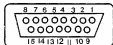

Figure 6-3. Cable Connector Pins
- 3) To check the switches you must connect the leads of the ohmmeter to the pin numbers given below. Without the button depressed it should show infinite resistance (open circuit). With the button depressed it should show less than 50K ohms resistance. Be sure to press the two fire buttons (left and right sides) separately to make sure they both work (see Figure 6-3 on page 6-6 for pin locations).
Cable Connector Pins are numbered as shown in Figure 6-3.
- 3) To check the switches you must connect the leads of the Ohm meter to the pin numbers given below. Without the button depressed it should show infinite resistance (open circuit). With the button depressed it should show less than 50K ohms resistance. Be sure to press the two fire buttons (left and right side) separately to make sure they both work (See figure 6-3 on Page 6-3 for pin locations).